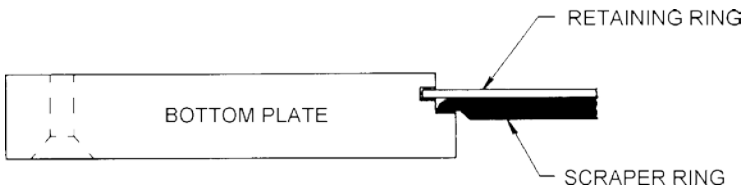

Figure F-1. Retaining and Scraper Rings
4. If a large amount of dirt has accumulated on the backside of the bottom plate, the scraper ring has become excessively worn and should be replaced. Replace the scraper ring by first removing the retaining ring with a small screwdriver or scribe (Figure F-1). Carefully remove the scraper ring. Clean the entire plate of any debris. Install the new scraper ring and replace the retaining ring.